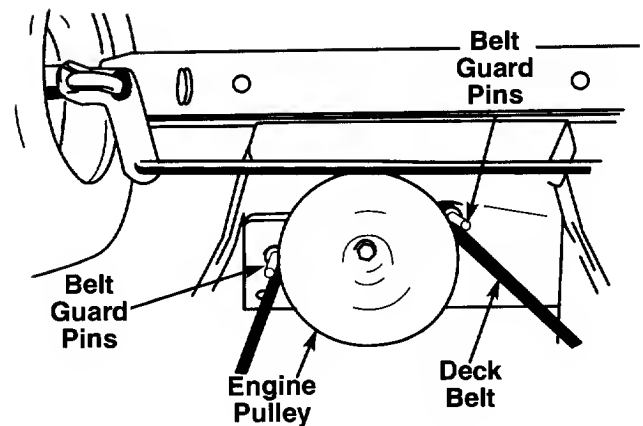

FIGURE 15.
2. Remove the two belt guard pins from the engine pulley belt guard. See figure 15.
**NOTE:** Make certain belt guard pins are reassembled as shown in figure 15.